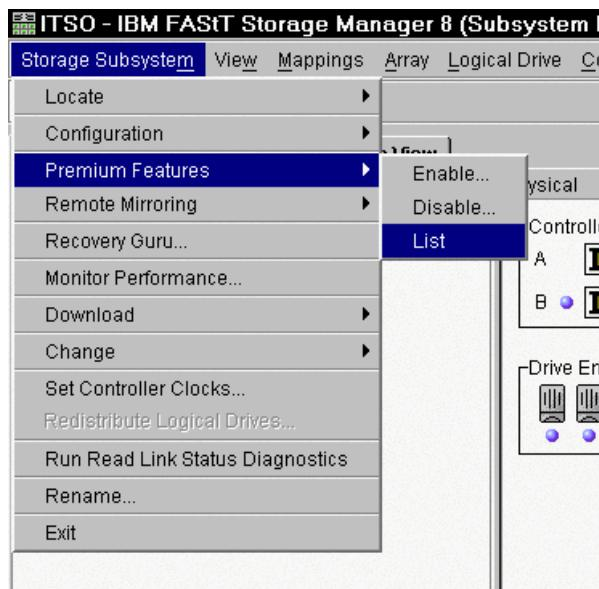

Figure 5-3 Listing premium features
- From the Subsystem Management window, click **Storage Subsystem-> Premium Features-> List**. Or you can right-click and click **Premium Features-> List** (see Figure 5-3).